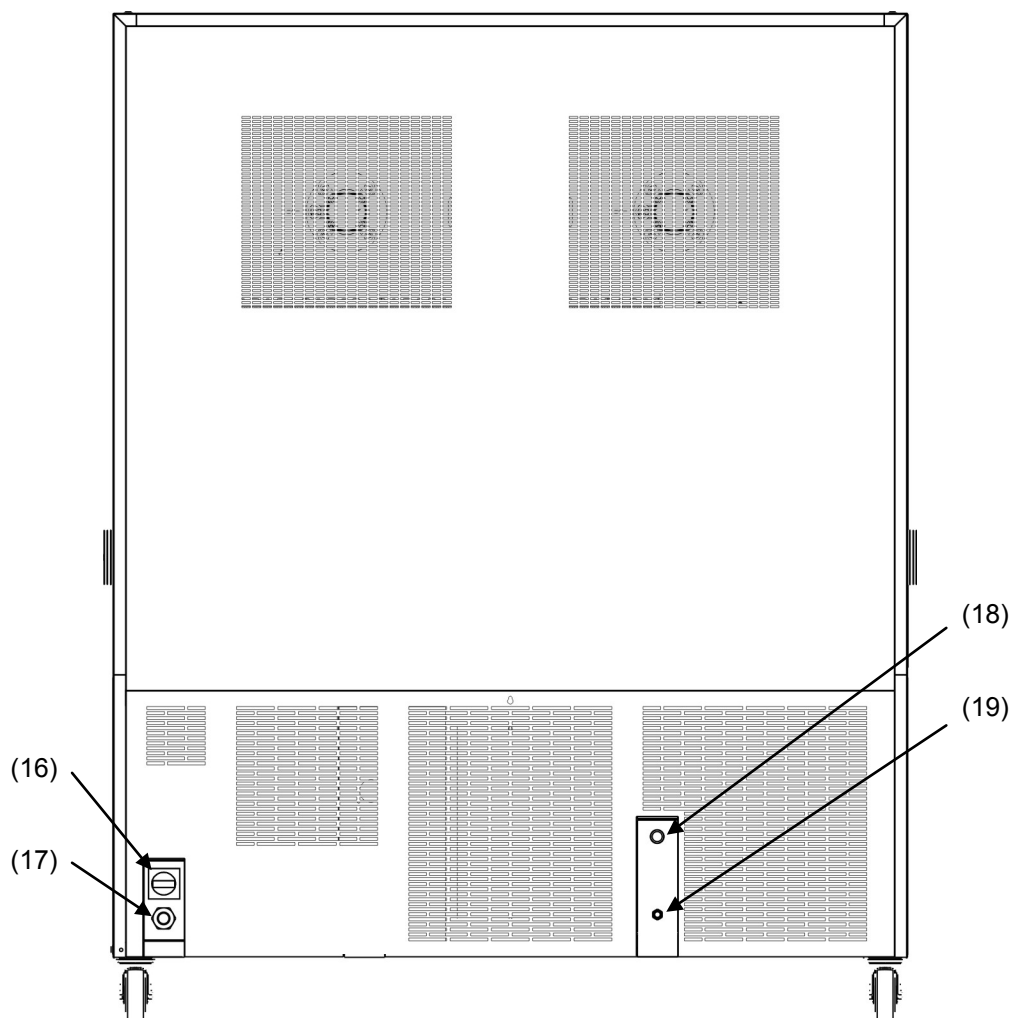

Figure 8: Rear view MK / MKT with optional water cooling
- Fasten the cooling hose to the connection "OUT" (18) (Figure 8) on the rear of the unit (screw thread $\frac{3}{4}$ ").
- Fasten the cooling water hose to the connection "IN" (19) (Figure 8) on the rear of the unit (screw thread $\frac{3}{4}$ ").
- Install the water supply connection using either the enclosed water hose or another pressure-resistant one. To accomplish this, remove the cover of the freshwater connection "IN" (19) (Figure 8) on the rear of the unit.